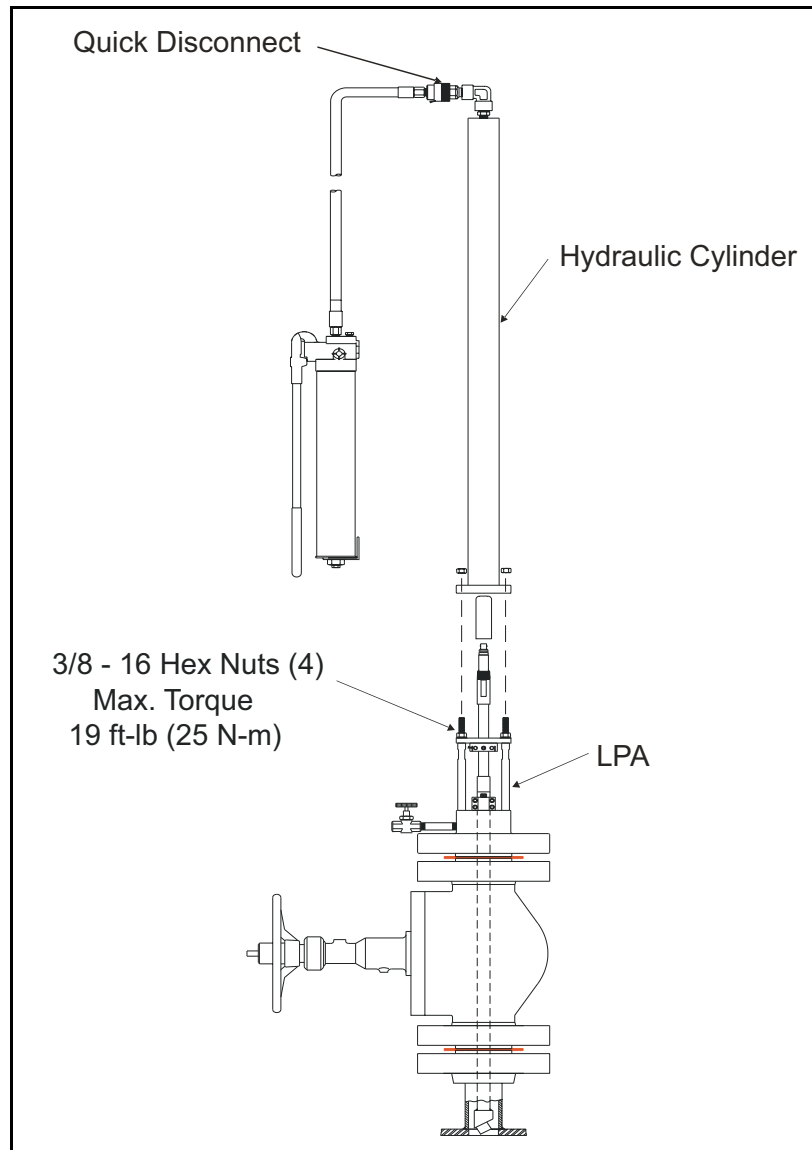

Figure 42: Attaching the Hydraulic Cylinder
5. Attach the hydraulic cylinder to the four studs on the LPA, using four 3/8-16 stainless steel nuts (see *Figure 42* below). Tighten the four 3/8-16 stainless steel hex nuts to a maximum torque of 19 ft-lb (25 N-m).